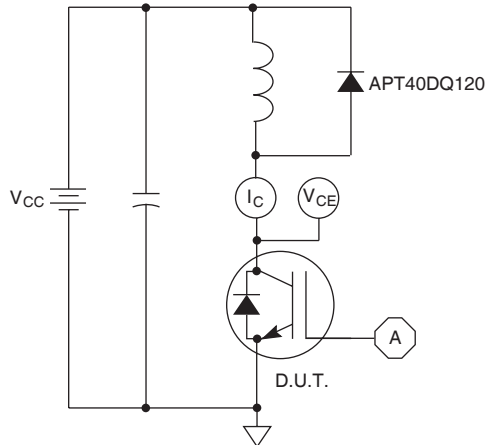

Figure 21, Inductive Switching Test Circuit
- ⑤ E_{on2} is the clamped inductive turn-on energy that includes a commutating diode reverse recovery current in the IGBT turn-on switching loss. (See Figures 21, 22.)
- ⑥ E_{off} is the clamped inductive turn-off energy measured in accordance with JEDEC standard JESD24-1. (See Figures 21, 23.)
- ⑦ R_G is external gate resistance, not including R_{Gint} nor gate driver impedance. (MIC4452)